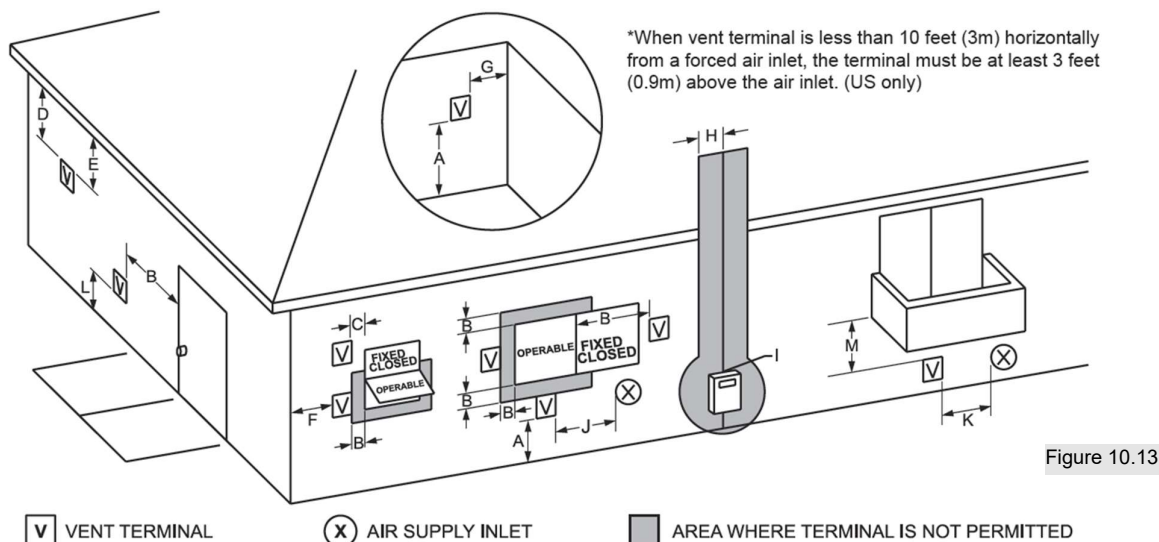

Figure 10.13
2. Locate the vent pipe penetration to provide clearances as described in Figure 10.13.
- Determine the best location for the termination kit (see Figure 10.13).